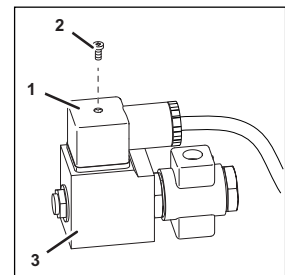

Fig. 68
1. Disconnect the plug (Fig. 68/1) of the solenoid valve (Fig. 68/3); remove the fastening bolt for this purpose (Fig. 68/2).
13. Connect the plug (Fig. 68/1) of the solenoid valve (Fig. 68/3) and secure the plug (Fig. 68/1) with the fastening bolt (Fig. 68/2).